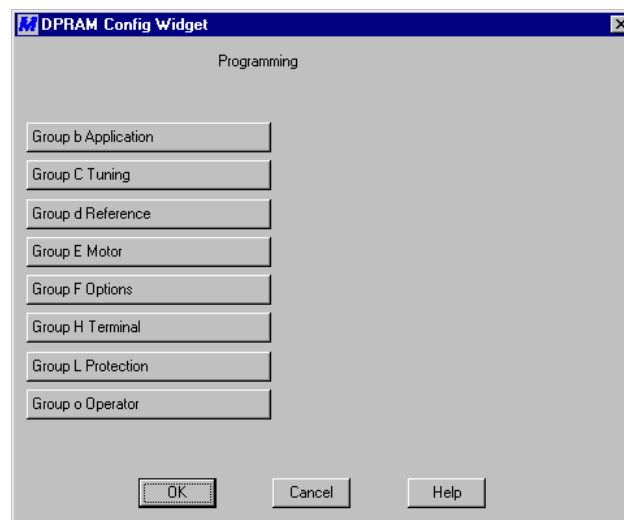

Figure 4. DPRAM Programming Menu
1. You may choose one of the following six configuration groups: For this example, click *****Main Menu***, Programming**. The **Programming** dialog box appears. The box presents eight groups from which to choose. See *Figure 4. DPRAM Programming .*